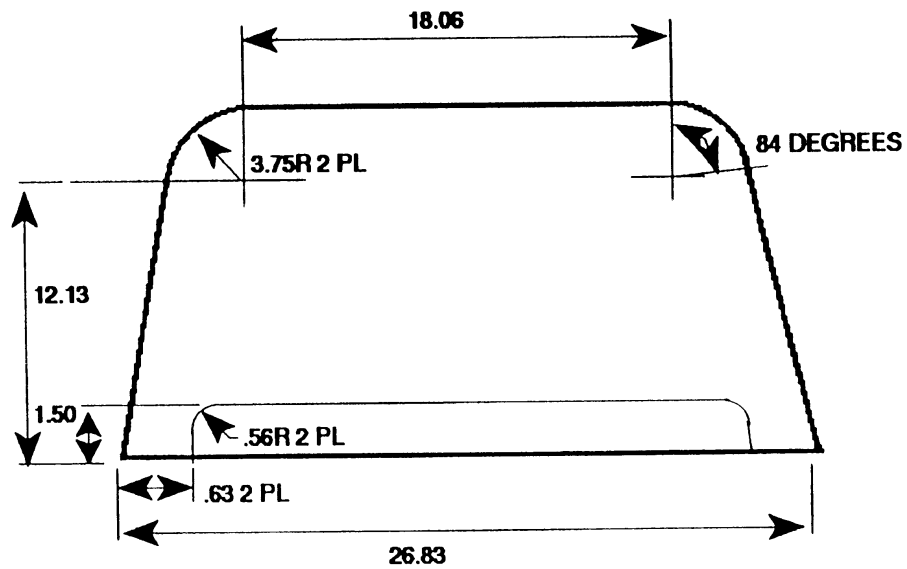

FIGURE 3-14
1. Make a template using figure 3-14 or cut out a window from an old door and use it.